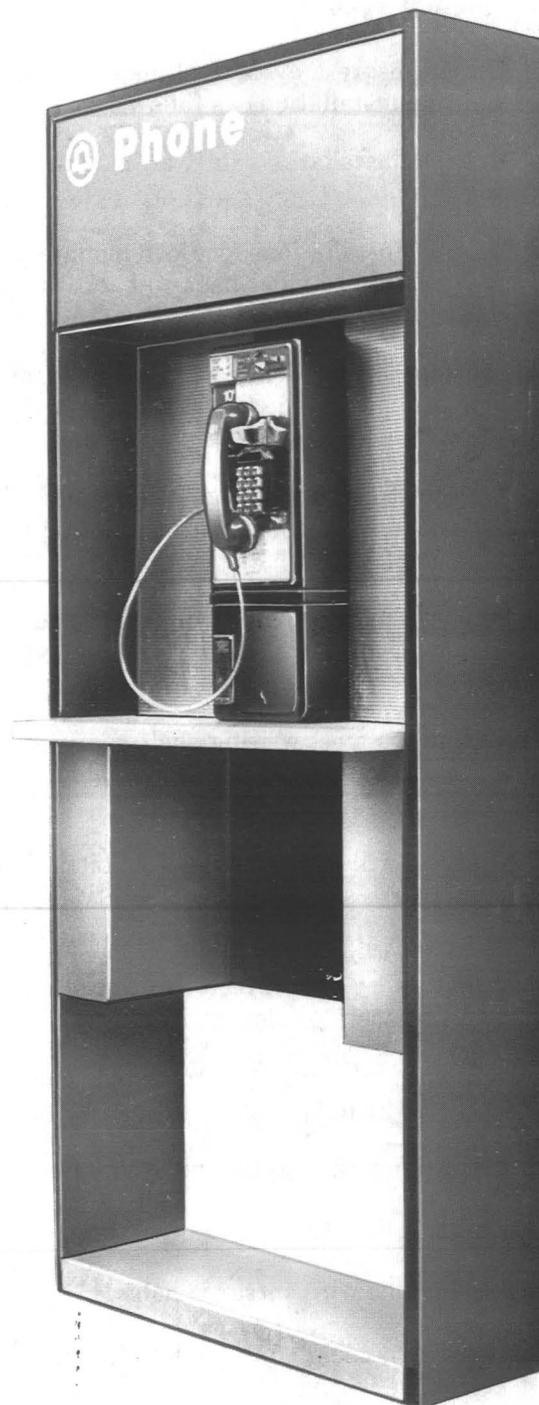

Fig. 1—KS-22665, List 3 STYLISTIC Enclosure
1.01 This section provides information on the KS-22665 STYLISTIC public telephone enclosures (Fig. 1 through 6).